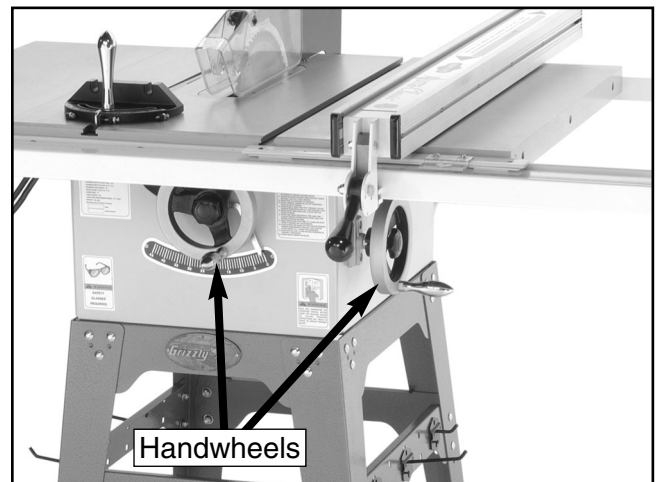

Figure 17. Installed handwheel.
3. Slide each handwheel over the threaded shafts that protrude from the side and front of the saw (**Figure 17**). Note—Align the keyway on the back of each handwheel with the roll pin on the threaded shafts.
4. Secure the handwheels to the threaded shaft with the star knobs (**Figure 17**).